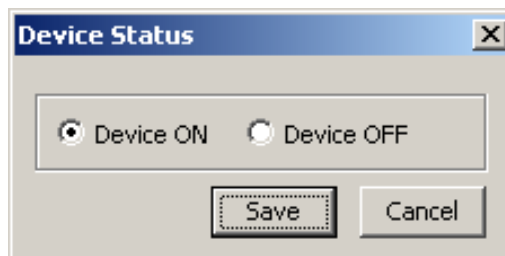

Figure 2-7 Device On/Off Dialog Box
1. From the ISScom Main Screen menu bar select **Device ON/OFF**. ISScom will display the Device On/OFF dialog screen (Figure 2-7).